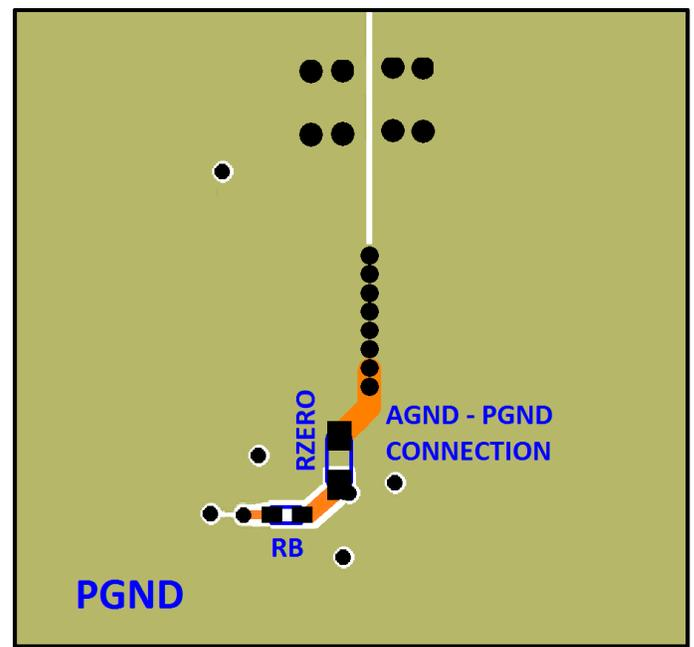

Figure 11: Bottom Layer – components
**Recommendation 8:** Using separate nets for AGND and PGND is good practice, allowing a proper layout. This is not absolutely necessary but highly recommended (**Figure 11**).